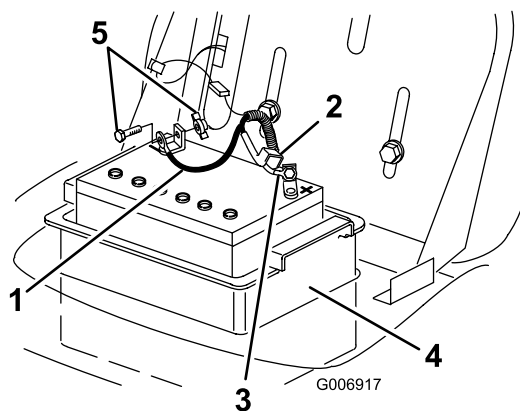

Figure 24
4. Disconnect the negative (black) ground cable from the battery post (Figure 24).
5. Slide the rubber cover up the positive (red) cable. Disconnect the positive (red) cable from the battery post (Figure 24).
6. Remove the battery box and battery from the chassis (Figure 24).
1. Put the battery into the battery box and install it into the chassis (Figure 24).
2. Using the bolt and wing nut, connect the positive (red) cable to the positive (+) battery post (Figure 24).
4. Using the bolt and the wing nut, connect the negative (black) cable to the negative (-) battery post (Figure 24).